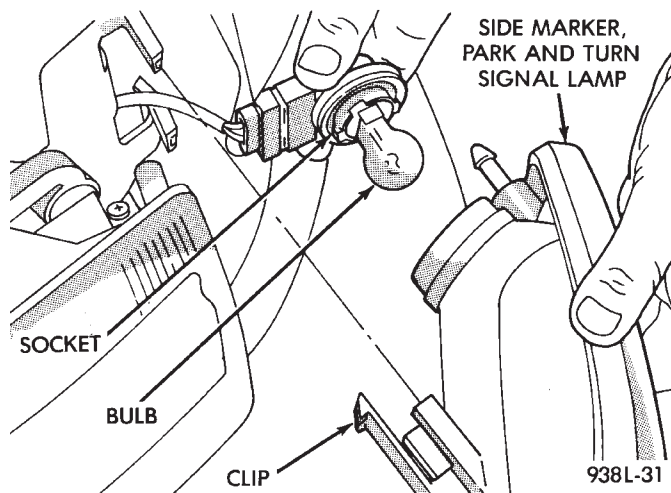

Fig. 2 Side Marker, Park and Turn Signal Bulb
- (1) Release hood latch and open hood.
- (2) Disengage clip holding lamp to headlamp module.
- (3) Pull lamp forward and separate lamp from vehicle.
- (4) Remove socket from lamp (Fig. 2).
- (5) Pull bulb from socket.